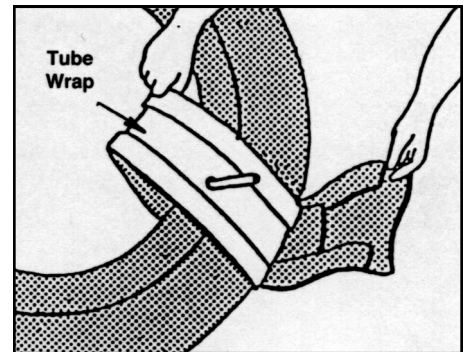

Figure 1
2. Loosely put on the tube wraps (NOTE: Direction tube wrap fits on tube). (See Figure 1).